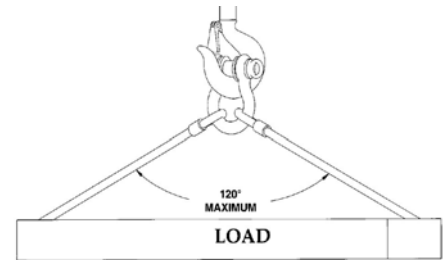

Fig. 10
- ⌚ Riggers do not exceed  $120^\circ$  included angle. (see Fig. 10)